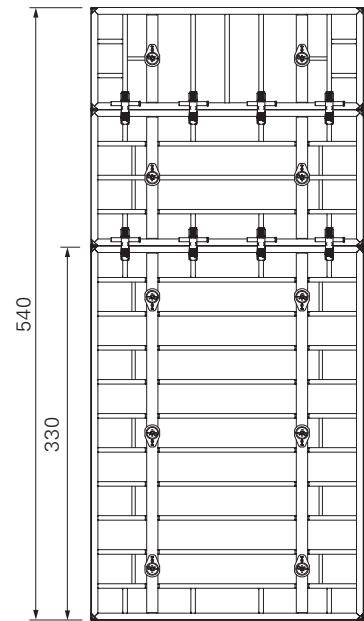

Fig. C8.01c
- H < 6.60 m, Alignment Couplers BFD (20) are to be used on the panel joints. (Fig. C8.01c)